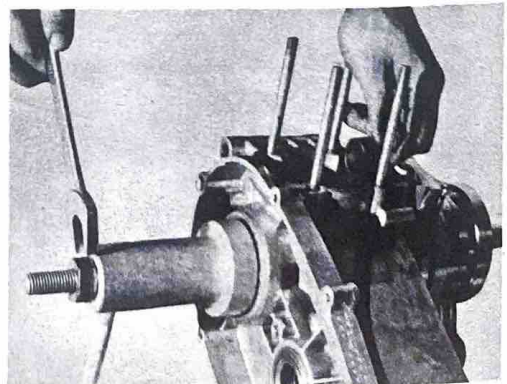

Fig. 4-18-4
2) Insert the crank assembly into the case and install the crank assembling tool. (Fig. 4-18-4)